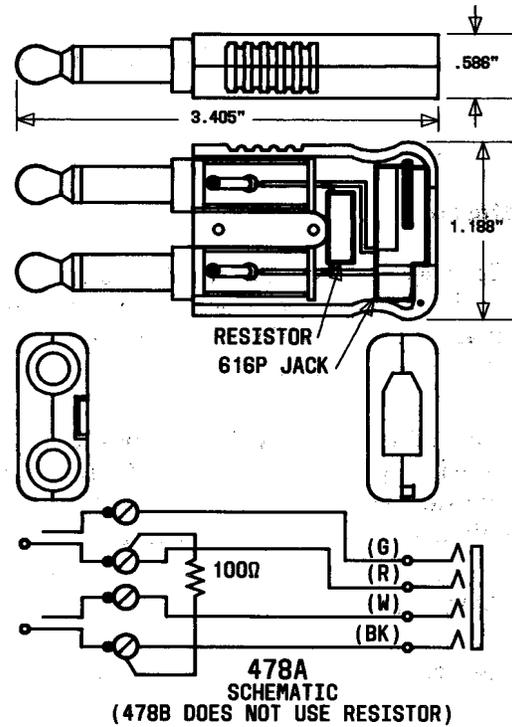

Fig. 3—478A-Type or 478B Plug
2.03 478A-Type: The 478A-type plugs (Fig. 3) are twin, double-conductor type, with a shell of insulating material. These plugs are used with modular equipment and have two 616P miniature jacks and a 100-ohm, 1-watt resistor.
2.04 478B-50: The 478B-50 plug (Fig. 3) is a twin, double-conductor type, with a shell of insulating material. Each plug finger may be turned 90 degrees in the shell to present a new surface for wear. The 478B-50 plug is available in ivory only, and is used with the A-type attendant consoles and the 2152 COM KEY® Key Telephone System.